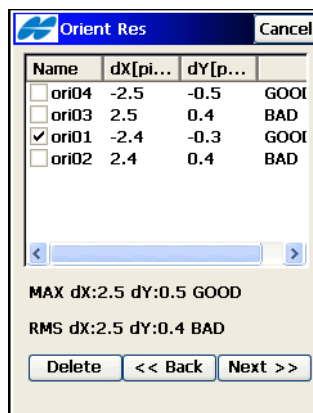

Figure 11-35. Delete Orientation Points
- **Meas** – measures the orientation point. The bitmap menu options (*Meas*, *From Map*, *From List*) are used to take a measurement or to select an existing point from a map or list (Figure 11-35).
-  – opens the *Orientation Res* screen (Figure 11-35 on page 11-36) to delete the selected orientation points.